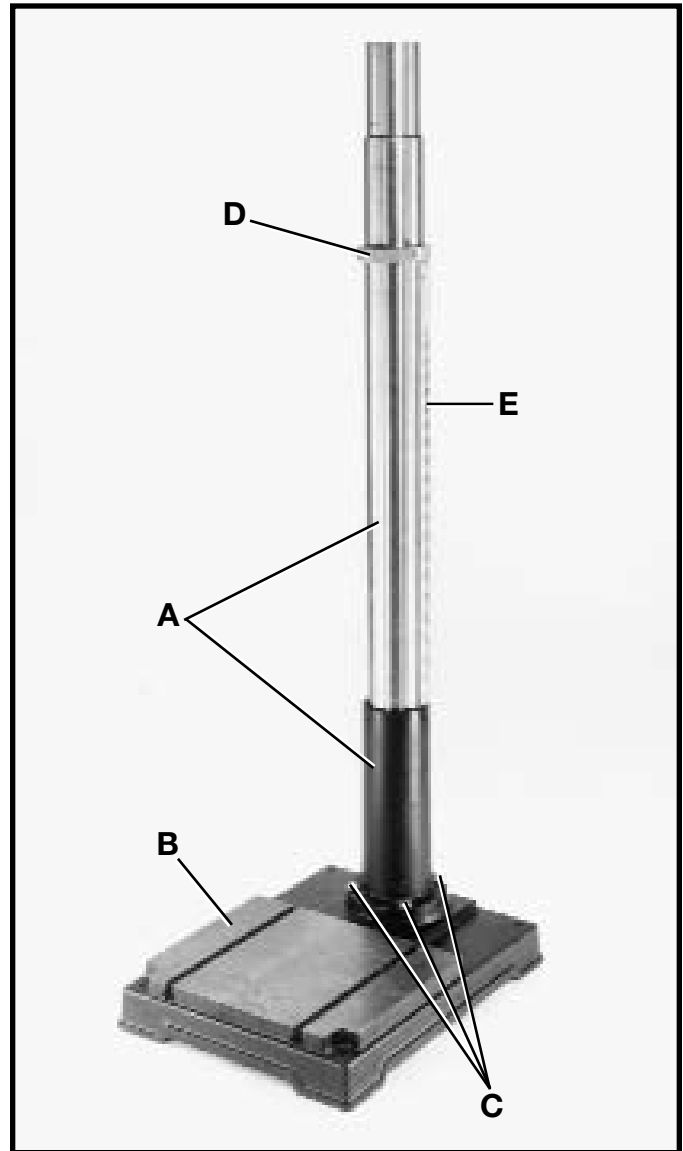

Fig. 2
1. Assemble column (A) Fig. 2, to base (B) using four M-12 x 45mm long hex head screws (three of which are shown at [C]). Loosen set screw in collar (D) and remove collar (D) and raising rack (E).